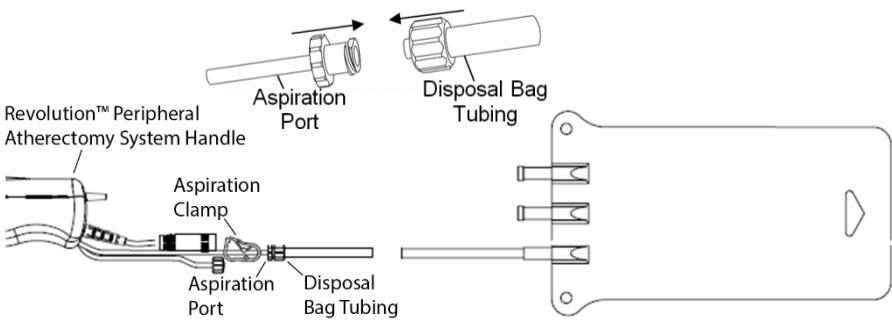

Figure 6: Connect disposal bag
3. Attach the supplied disposal bag to the aspiration port, as seen in Figure 6. **NOTE: Ensure that the aspiration clamp is opened and the tubing is not damaged. Never activate the device if the aspiration clamp is closed.** The Revolution™ Peripheral Atherectomy System is now ready for use.
12. Release the ON/OFF button so that the Revolution™ Peripheral Atherectomy System is no longer rotating and image the vessel. **Warning: When the Revolution™ Peripheral Atherectomy System is not activated, arterial pressure may force excess blood into the disposal bag. Always shut the aspiration clamp, as seen in Figure 6, when the device is not in use. Before subsequent use, ensure that the clamp is opened and tubing is not damaged. Never activate the device with the aspiration clamp shut. If continued treatment is required, push the speed switch to the back position (slow speed) and depress the ON/OFF button to fully remove particulate from within the system. Ensure the system is flushed with heparinized saline and push the speed switch back to the forward position (fast speed) before activating the Revolution™ Peripheral Atherectomy System again.**